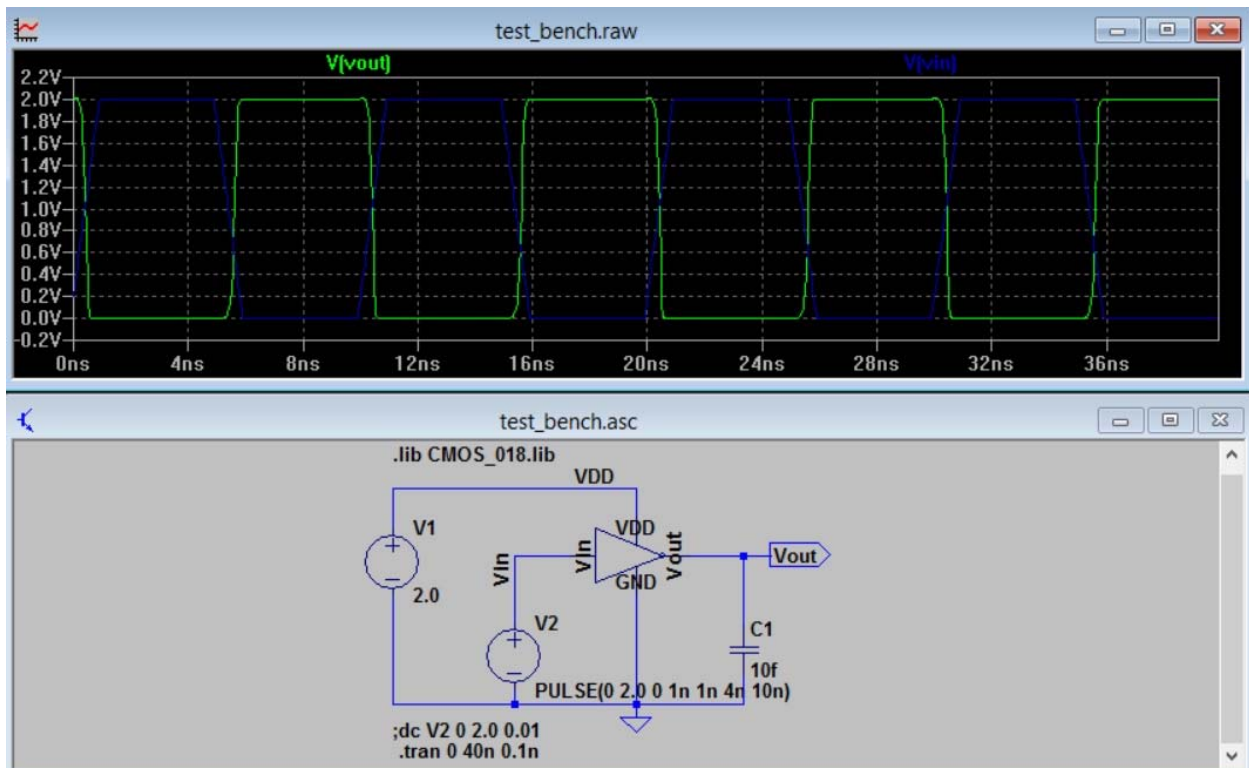

Figure 22. Waveforms of transient analysis for the test bench
- F. Move your mouse over to the schematic window, and then click the wires labeled with **Vin** and **Vout**. The waveforms of Vin and Vout display on the waveform viewer as shown in Figure 22.